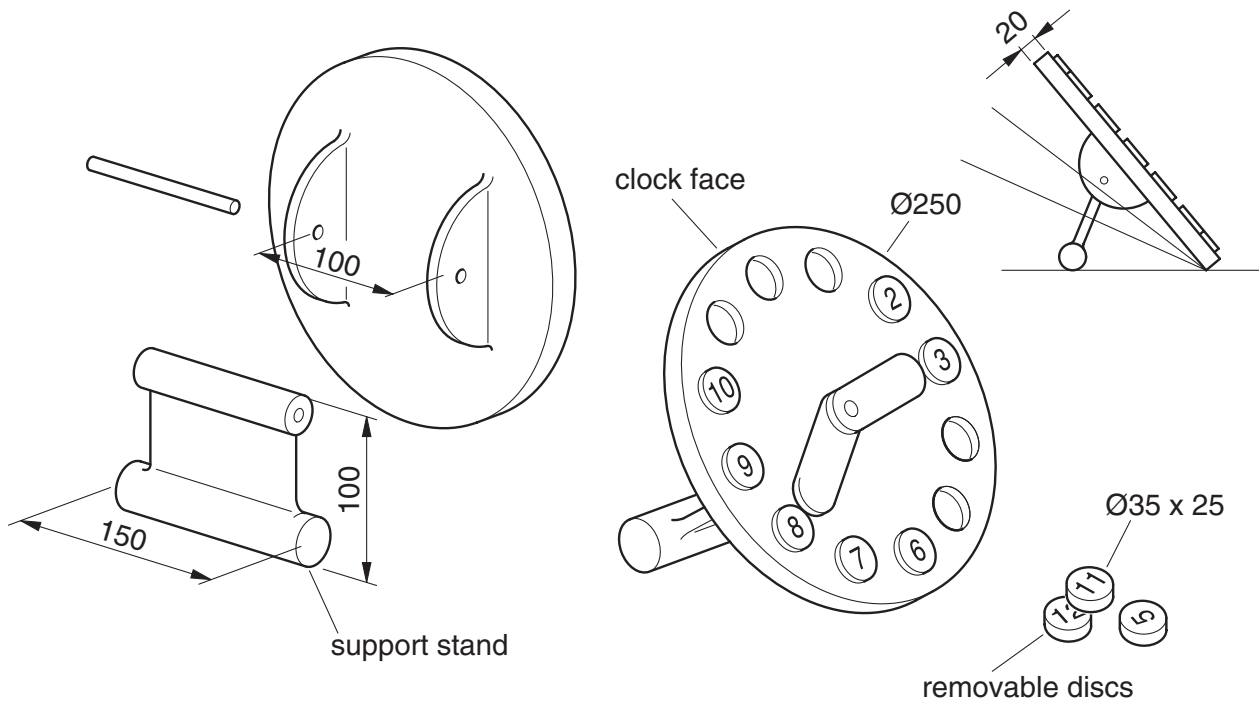

Fig. 8
- 16 Fig. 8 gives details of a teaching clock. It is made up of three main parts, a clock face, removable number discs and a support stand.